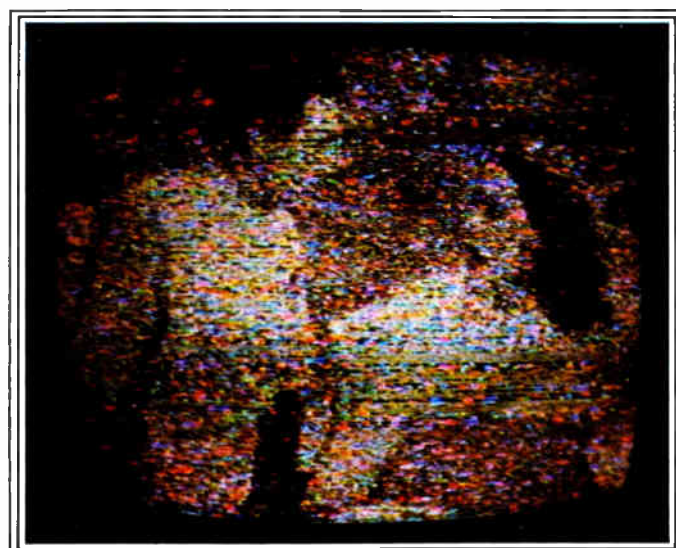

Figure 1-28
- ( ) If colored confetti (colored noise, see Figure 1-28) appears on black and white programs, adjust the COLOR KILLER control clockwise slightly until the colored noise is removed. Recheck the color program to make sure the color signal is still received normally.